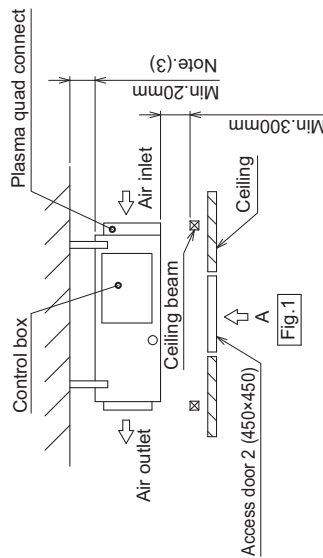
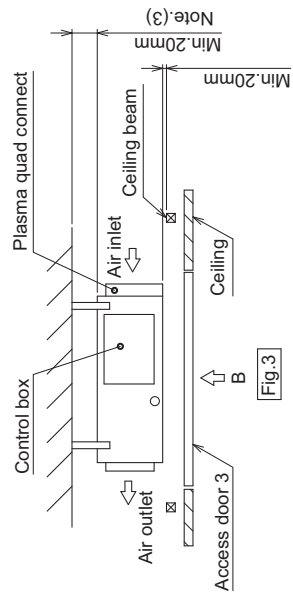

Fig.1
Fig.3
(1) When a space of 300mm or more is available below the unit between the unit and the ceiling. (Fig.1)
(At least 20mm of space should be left below the unit as shown in Fig.3.)
(3) For maintenance if there is more than 170mm from the top surface, the cover can be pulled out without removing the PQ attachment. (Fig.1, Fig.3)